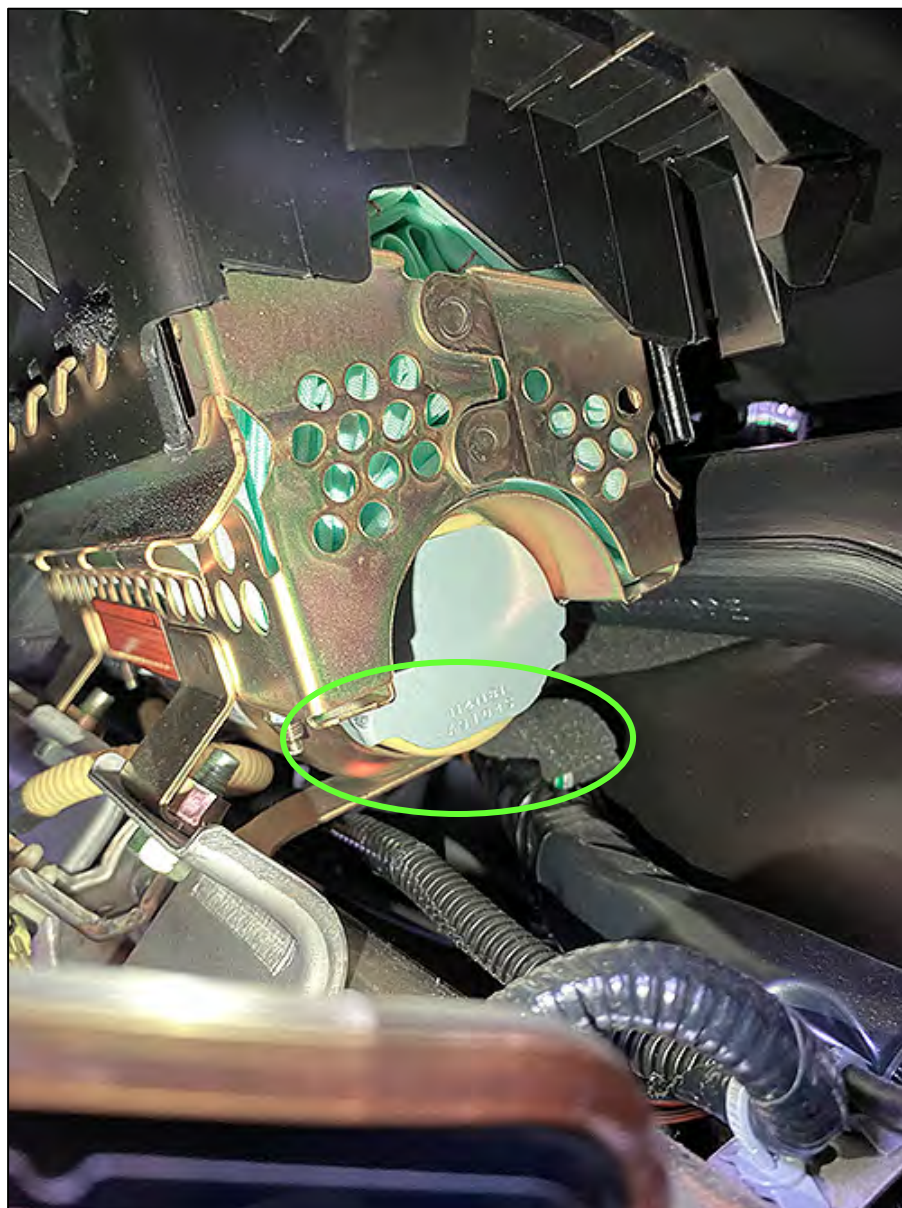

Figure 3
2. Using a light, inspect the area shown in Figure 3 to determine if the passenger air bag inflator has plastic end caps or is metal (Examples of plastic or metal are shown in Figure 4 - Figure 6 on page 6).
HINT: Inspection angle in Figure 3, below, is shown viewed from the Passenger (RH) Side of the installed passenger air bag inflator assembly.